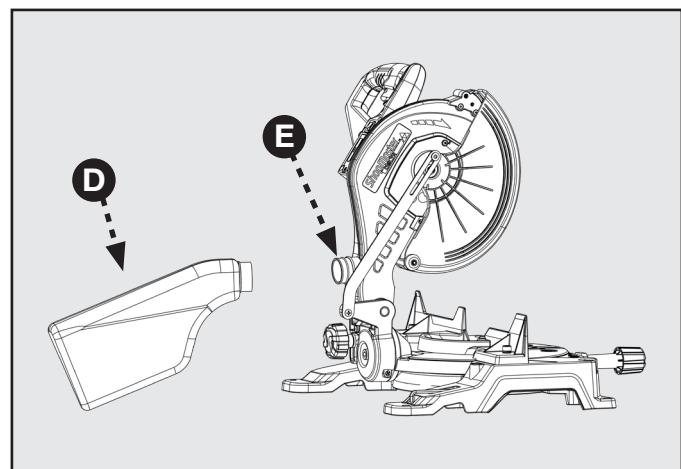

FIGURE 8
The tool includes a dust collection bag that attaches over the exhaust port on the upper blade guard. To install, slide the plastic collar (D) of the dust bag onto the dust port (E). See Figure 8.